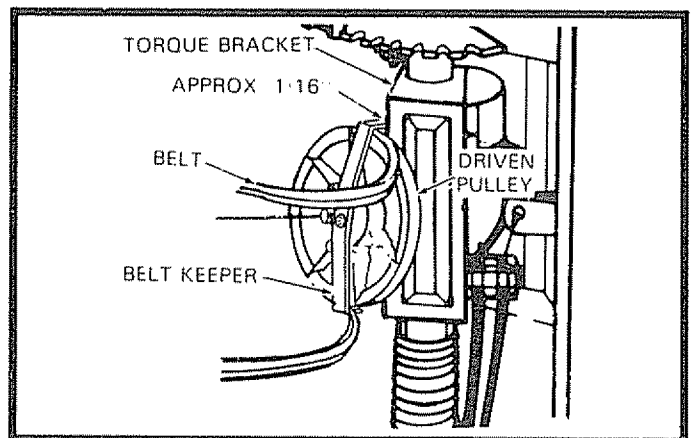

FIG. 25A
- With Driven Pulley resting against the Torque Bracket, rotate the Belt Keeper until right edge of Keeper is approximately 1/16" from the Torque Bracket (See Fig. 25A on page 18) and tighten Locknut.